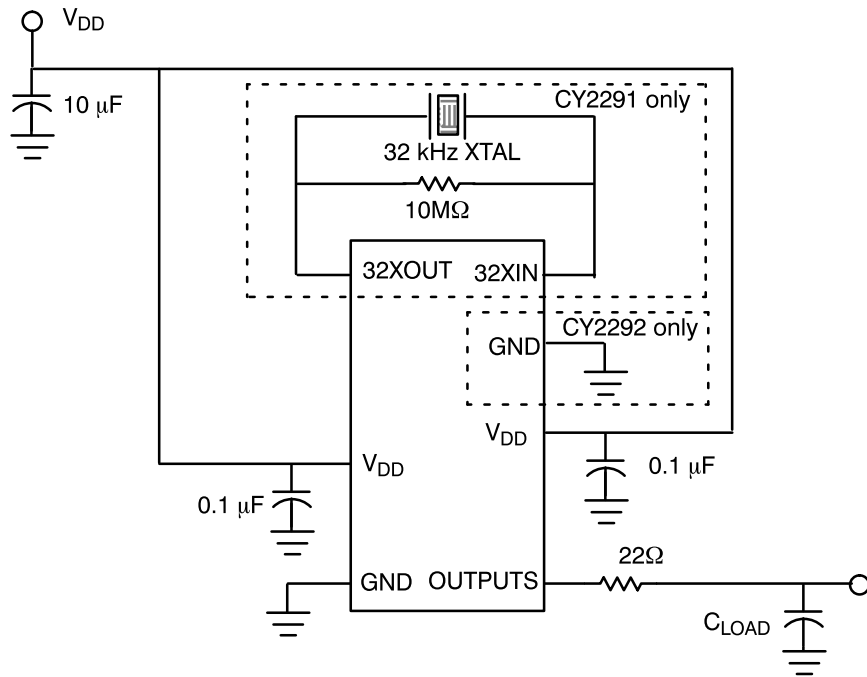

Figure 2. External Connections of the CY2291/2
- A 10 M Ω resistor in parallel to the 32 kHz crystal as shown in *Figure 2*
In order to ensure optimal operation of the CY2291, use the following layout and filtering techniques. *Figure 2* shows the recommended external connections.
If the output of the CY2291 drives multiple loads or long traces, use a terminating resistor in series with the output, attached as close to the output pin as is possible. *Figure 2* shows a 22Ω resistor in series with the output. The value of this resistor, summed with the output impedance of the CY2291, should equal the characteristic impedance of the trace (transmission line). Typical values of the series resistor range from 10Ω to 75Ω.